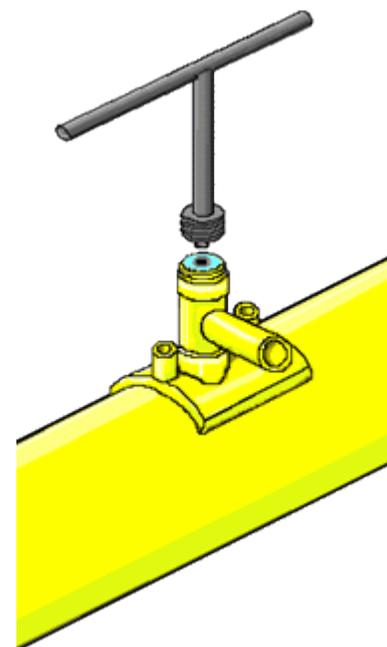

Figure 7 - 63 mm Top tees with Drill Guide Follower
4. Check that the tapping tee thread followers are present and follow the manufacturer's instructions (Figure 7) this will minimise the risk of stripping the moulded thread inside the stack section.